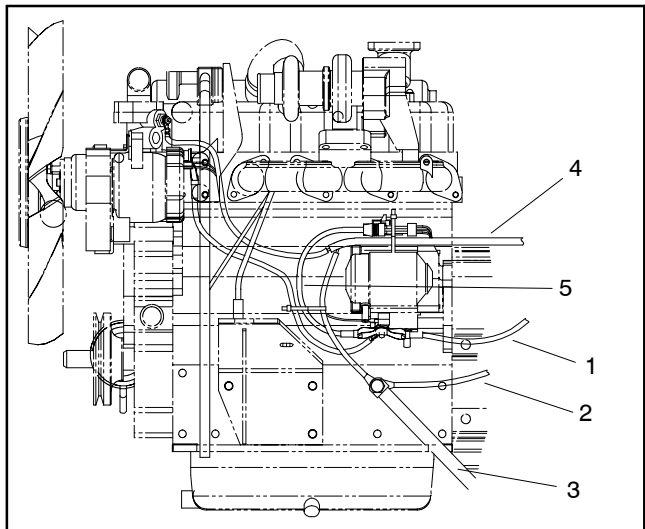

Figure 15
D. Battery, frame, and wire harness ground at the engine block (Fig. 15).
E. The electric starter (Fig. 15).
- D. Battery, frame, and wire harness ground to the engine block (Fig. 15).
- E. The electric starter (Fig. 15).